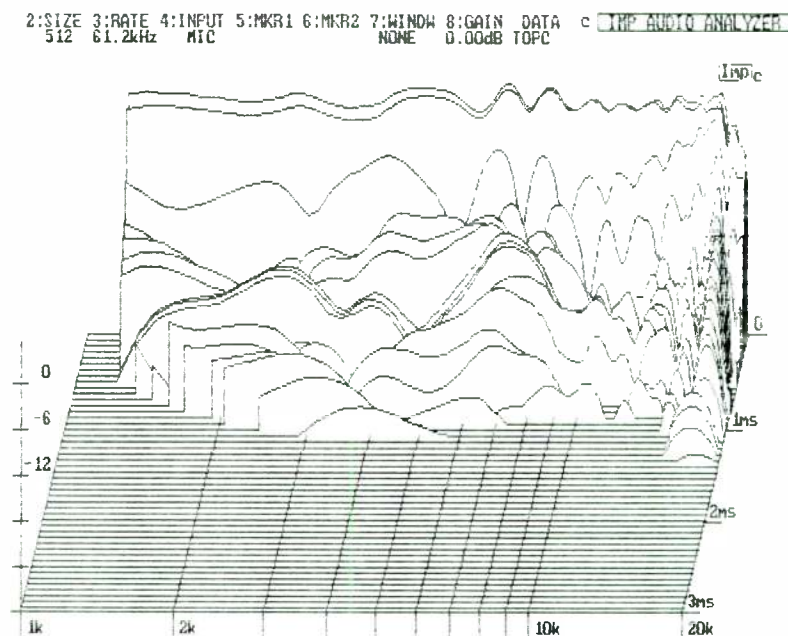

FIGURE 5: Waterfall plot of a tweeter and midrange set.
**[Transform] Waterfall:** This is, without a doubt, the most satisfying function (from a programmer's standpoint) this program can perform. Also known as a cumulative spectral decay plot, it can provide very useful information about cabinet resonances and reflections and tweeter ringing. It also can make impressive plots that mean nothing whatsoever if configured carelessly. If you want to make people think you are beyond amateur rank, flash one of these three-dimensional plots around. *Figure 5* shows a relatively well-behaved example.
Less perfect speakers, like the one analyzed in *Fig. 5*, will not have all their spectrum-producing time data concentrated in one shot, so the response will decay more gradually. And if any components such as cabinets, cones, or dust caps are causing ringing or poorly damped output, a decreasing ridge will appear at the resonating frequency. Long nondecreasing ridges usually mean stray pickup of spurious signals, computer-generated electromagnetic interference (EMI), or hum.